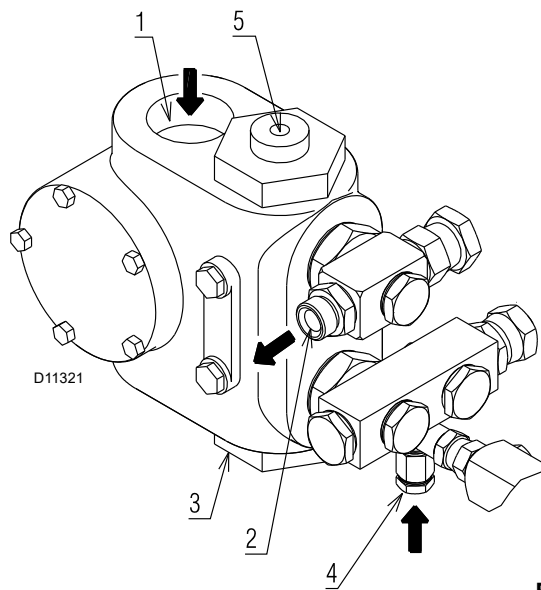

Fig. 21
Key (Fig. 21)
- In order for self-priming to take place, the screw 4) on the pump (Fig. 21) must be loosened to bleed off the air contained in the suction line.
If the pump has been drained, fill it with fuel through the opening on the vacuumeter 4)(Fig. 21) prior to starting; otherwise, the pump will seize.